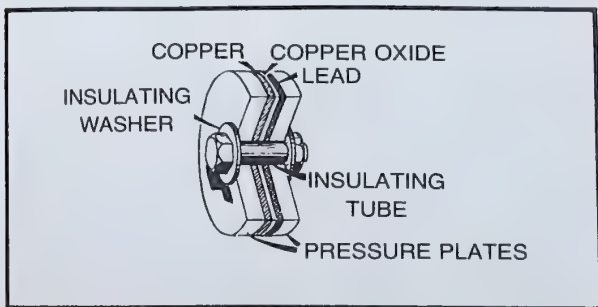

Fig. 10-39. A copper-oxide rectifier.
**Copper-Oxide Device.** In the copper-oxide rectifier, shown in Fig. 10-39, the oxide is formed on the copper disc before the rectifier unit is assembled. In this type of rectifier the electrons flow more readily from the copper to the oxide than from the oxide to the copper. External electrical connections may be made by connecting terminal lugs between the left pressure plate and the copper, and between the right pressure plate and the lead washer.